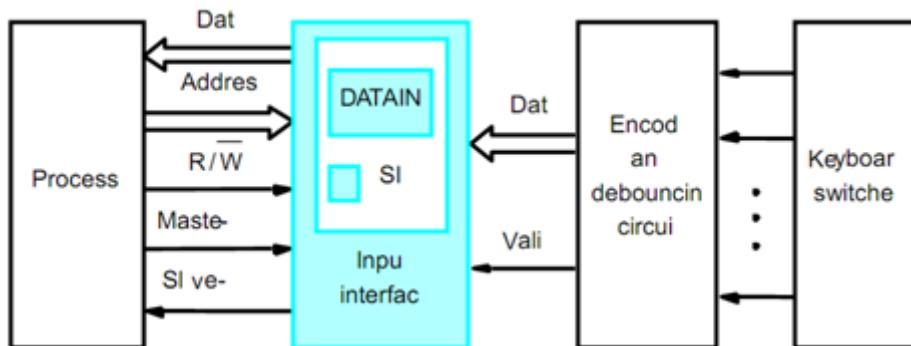

Figure 4.12 Keyboard to processor connection
**Example 1:** The above figure 4.12 shows the hardware components needed for connecting a keyboard to a processor. Keyboard consists of mechanical switches that are normally open. When a key is pressed, the switch is closed and establishes a path for the electrical signal. This signal is detected by an encoder circuit and it generates the ASCII code for the respective character. The debouncing circuit is used to detect the pressing of the key as single press, repeated pressing and some bouncing effect.